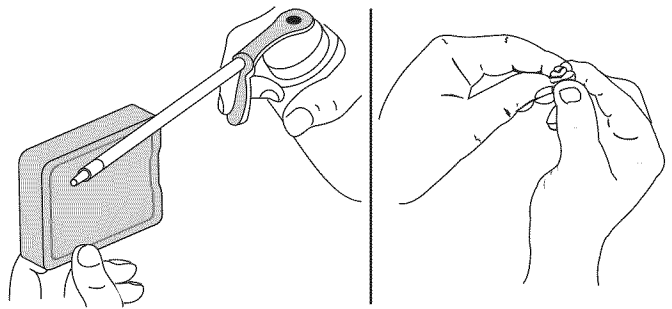

Fig. 21
4. Apply enough clean SAE 30 motor oil to lightly coat the filter (Fig. 21).
5. Squeeze the filter to spread and remove excess oil (Fig. 21).
2. Release the throttle trigger and let the engine idle. If the engine stops, insert a small phillips or flat blade screwdriver into the hole in the air filter/muffler cover (Fig. 21). Turn the idle speed screw in, **clockwise**, 1/8 of a turn at a time (as needed) until the engine idles smoothly.